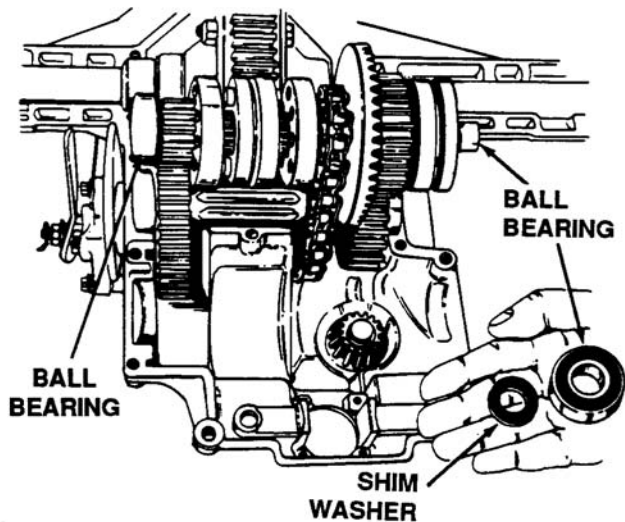

Figure 5-35. Removal of Bearings and Shim Washers
9. Remove the two ball bearings and shim washers from the drive shaft. See Figure 5-35.